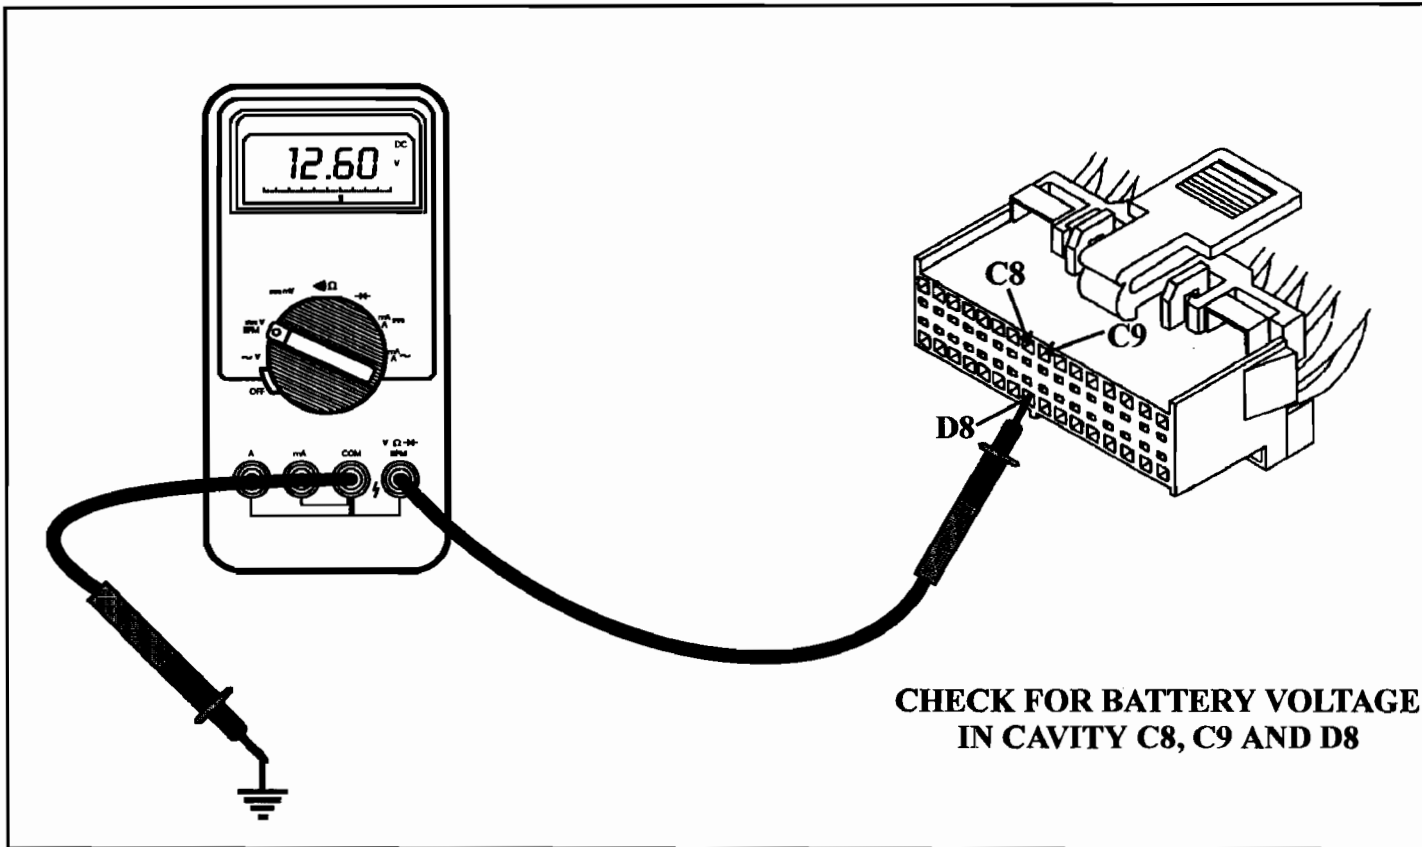
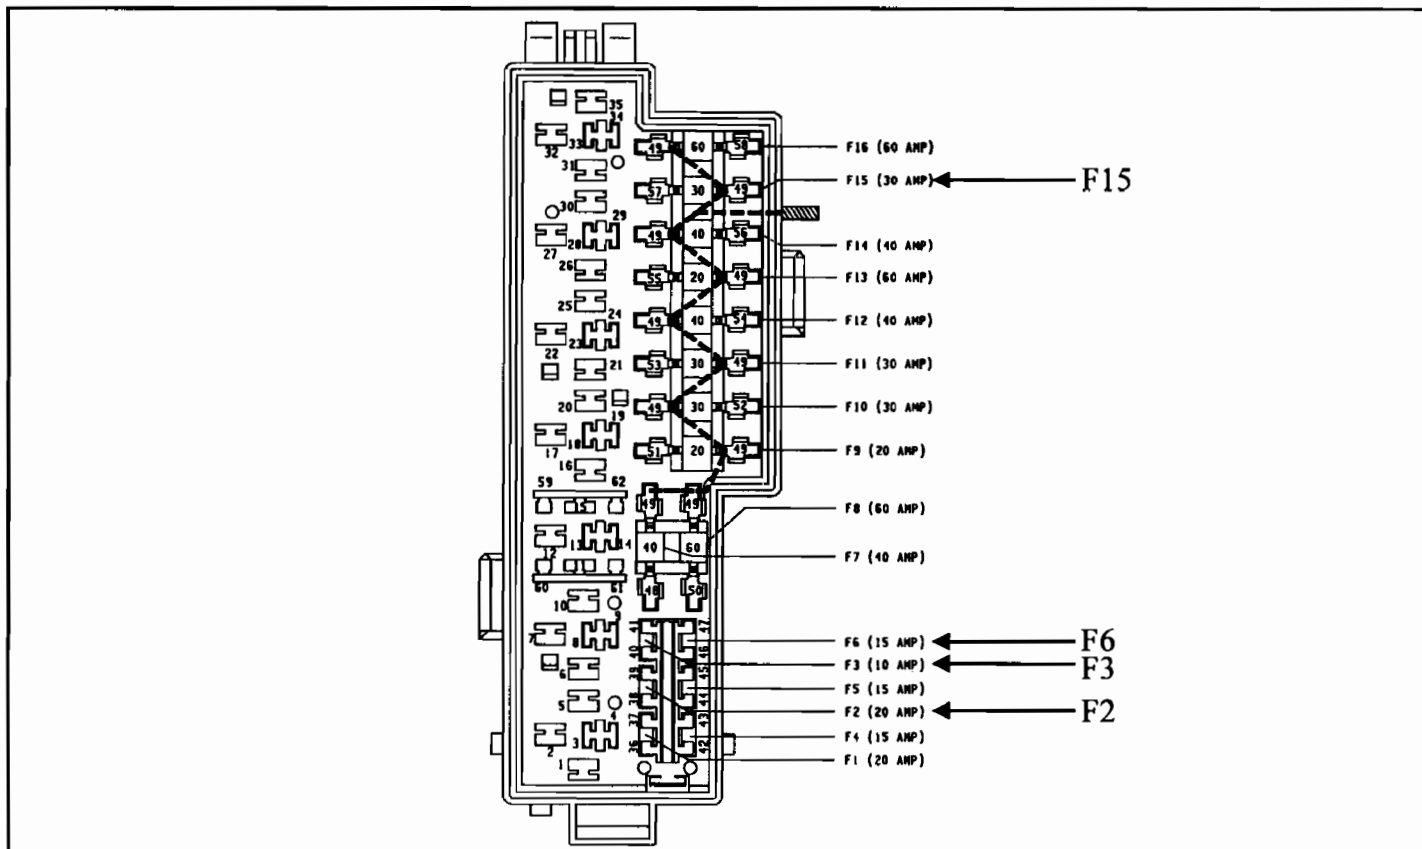
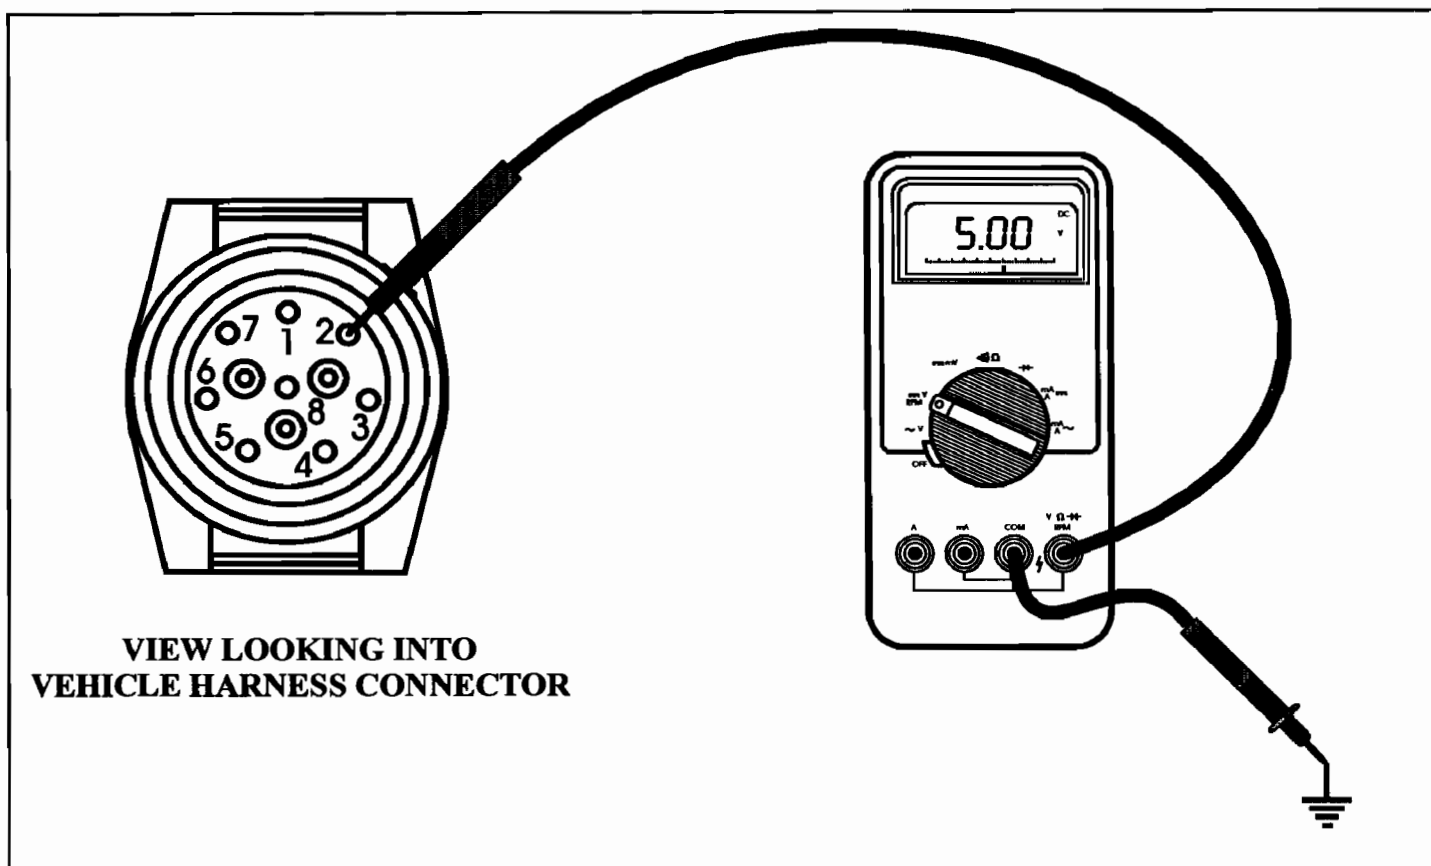
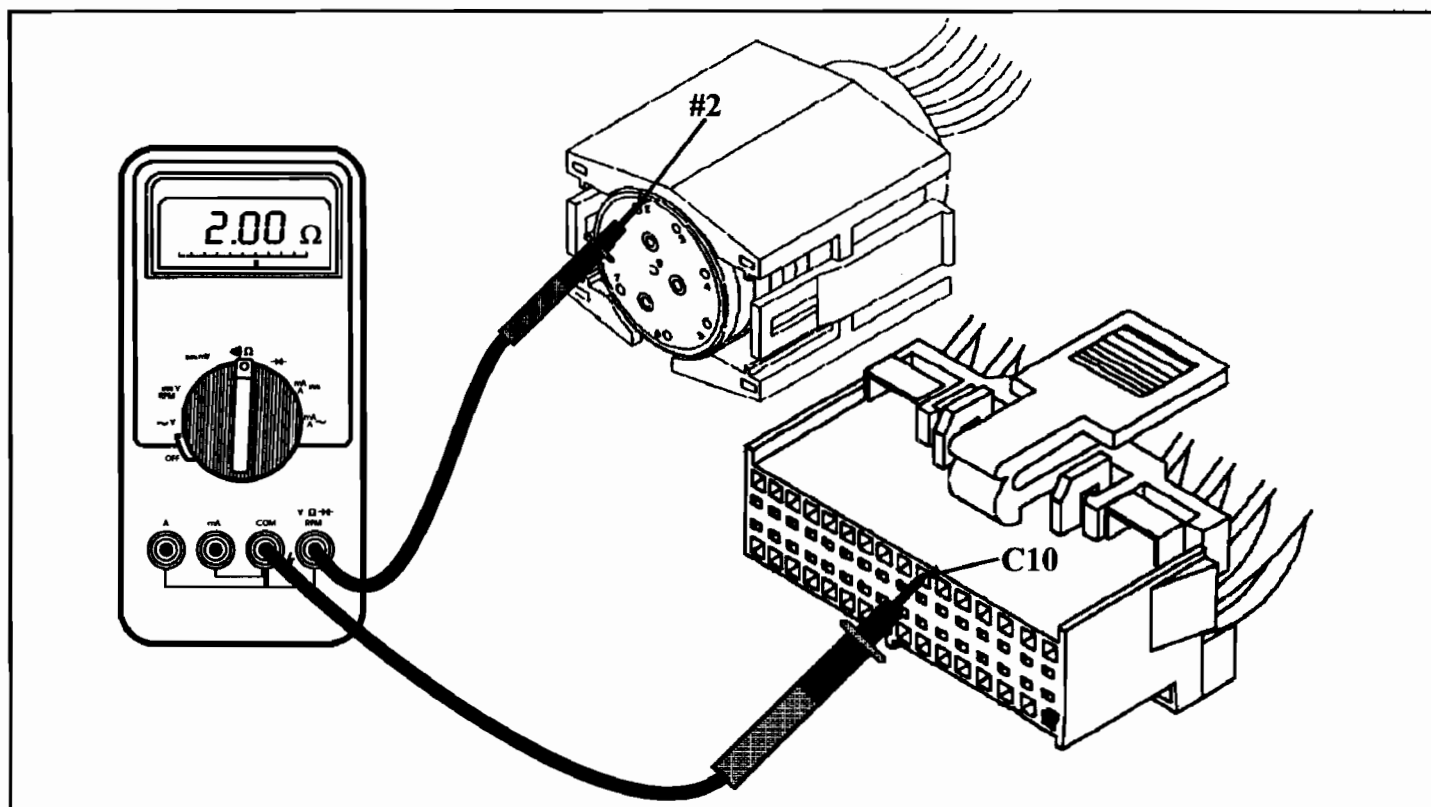

Figure 11
Figure 12
Figure 13
Figure 14
- (c) With the engine off and the ignition switch in the ON position, check for battery voltage in the transmission control module connector, on pins C8, C9 and D8, as shown in Figure 11. If battery voltage is lost at *any* one of these terminals, check for blown fuses in the power distribution center, located on the passenger side fender shield by the battery. Check fuses F2, F3, F6, F15, and replace as necessary, as shown in Figure 12. If battery voltage is seen at all three locations, continue on to the next step.
**CORRECTION (B): (Continued)**
- (d) Plug the transmission control module connector back into the computer, and with the engine off and ignition switch in the ON position, check for 5 volts at cavity number 2 in the vehicle harness connector, as shown in Figure 13. If no voltage is seen, unplug the transmission control module connector and test for continuity between cavity C10 at the transmission control module connector and terminal number 2 at the vehicle harness connector, as shown in Figure 14. If 5 ohms or less is indicated, the computer will need to be replaced. If an open circuit is indicated, repair or replace the broken wire between C10 and terminal 2.